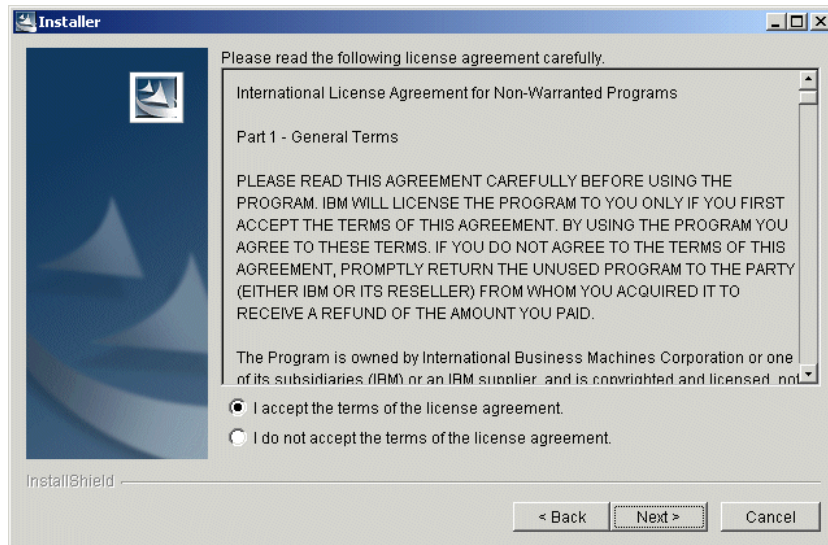

Figure 4-20 RTD License agreement window
2. When the welcome screen appears, click **Next**. You will see a window similar to Figure 4-20.